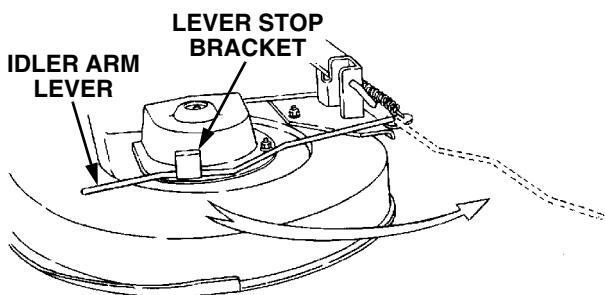

Figure 6-25
9. Disengage the deck idler arm lever from its stop bracket and release the spring tension by rotating the lever out and rearward (See Figure 6-25).